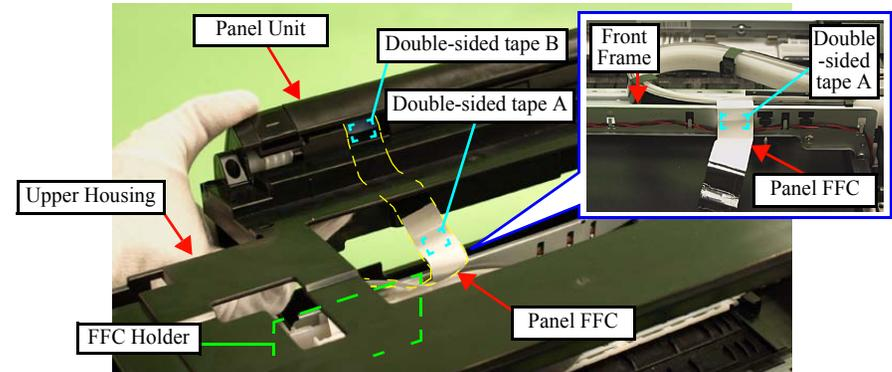

Figure 4-214. Removing the Upper Housing (4)
- Peel off the double-sided tape A that secures the Panel FFC to the Front Frame, and lift the Upper Housing until the Panel FFC becomes detached from the FFC Holder. (See Fig. 4-214.)
- Peel off the double-sided tape B that secures the Panel FFC to the Panel Unit. (See Fig. 4-214.)
- Secure the Panel FFC with double-sided tape to the Front Frame. (See Fig. 4-214.)